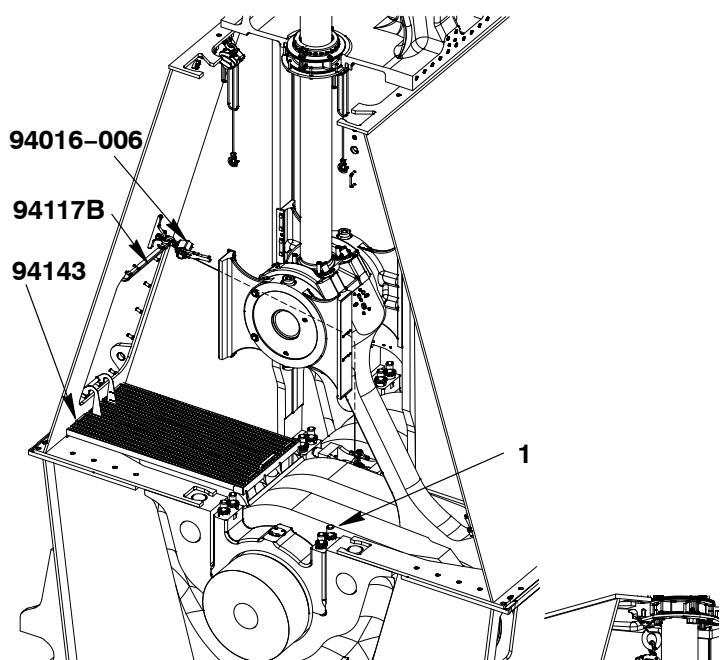
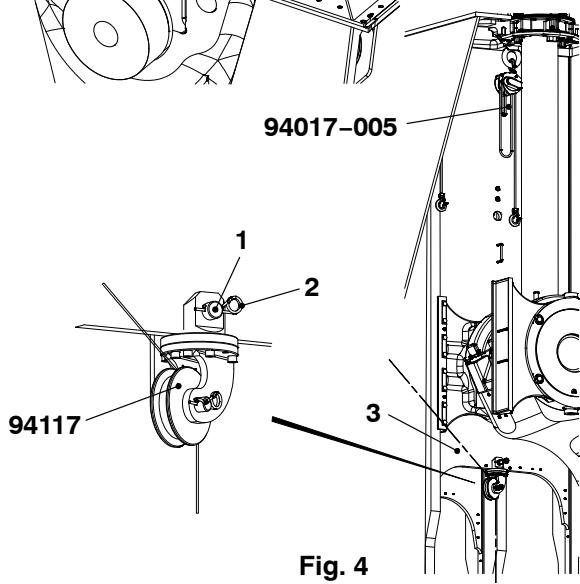

Fig. 3
Fig. 4
- 3) Attach the working platform (94143, Fig.3) .
- 5) Loosen the elastic studs (1) and remove their nuts, refer to 1132-1.
- 6) Install the spur-gearred chain blocks (94017-005, Fig.4) and the manual ratchet (94016-006, Fig.3).
- 7) Attach the roller support (94117, Fig.4) to the column (3) and put the a double spring clip (2) to secure the pin (1).
- 8) Attach the deviation pipe (94117B, Fig.3) to the column.